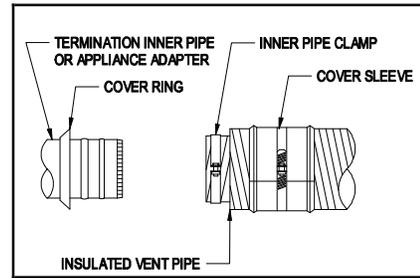

Figure 22
1. Pull outer vent pipe back 1"-2" from inner vent pipe end and remove insulation (Figure 22).
2. Slide Cover Sleeve onto end of vent pipe a few inches back from end of outer vent pipe (Figure 22).
3. Slide Cover Ring over stop bead on termination inner pipe or appliance adapter (Figure 22).
4. Assemble inner pipe clamp halves using the supplied $\frac{1}{4}$ " bolts and square nuts, and position inner pipe clamp $\frac{1}{4}$ " from end of inner pipe (Figure 22).